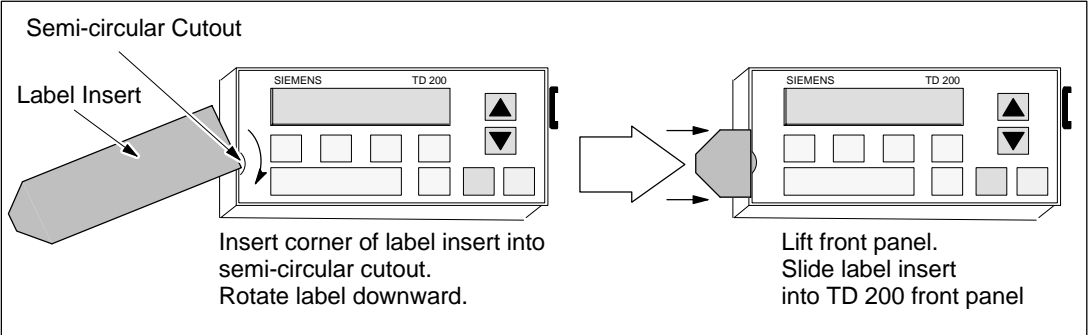

Figure 1-4 Inserting Customized Label
4. Insert the customized label insert by placing the corner of the insert in the semi-circular cutout (shown in Figure 1-4). Rotate the label insert so that it is oriented correctly.